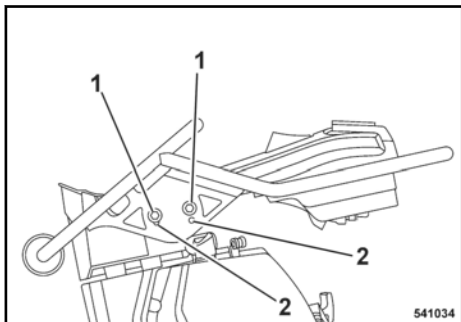

Fig. 11
The steering bow can be adjusted to the height of the operator by using the bore holes (1) and (2) & Fig. 11:
(1) lowest position
(2) highest position